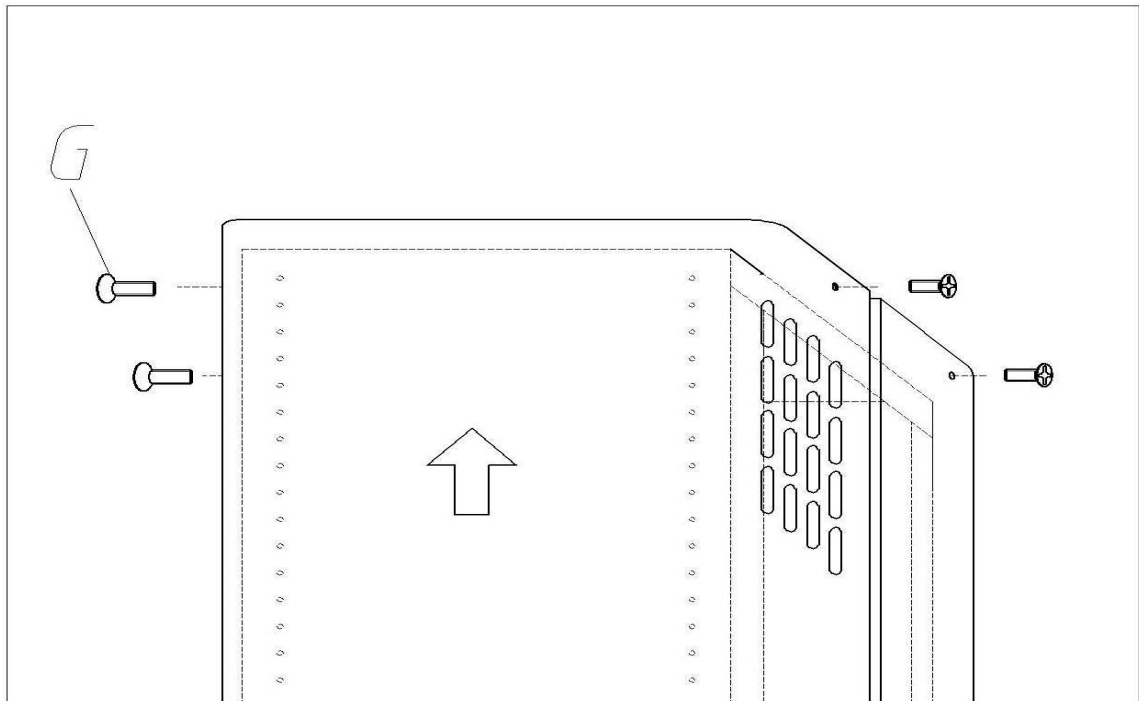

Fig.7
9. Take the upper chimney piece and fix it with 4 unit screws **G** (Fig.7).